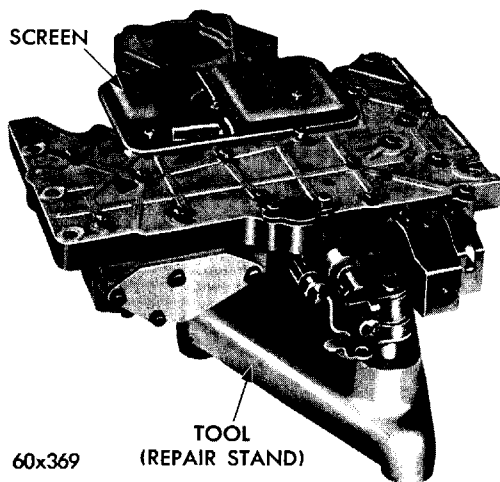

Fig. 32—Removing or Installing Oil Screen
(1) Place the valve body assembly on repair stand, Tool C-3749 (Fig. 32). Remove three screws from oil screen and lift off the screen.